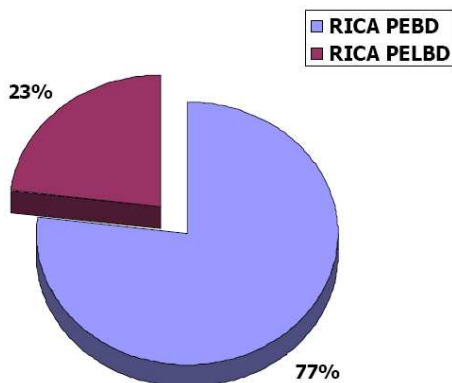
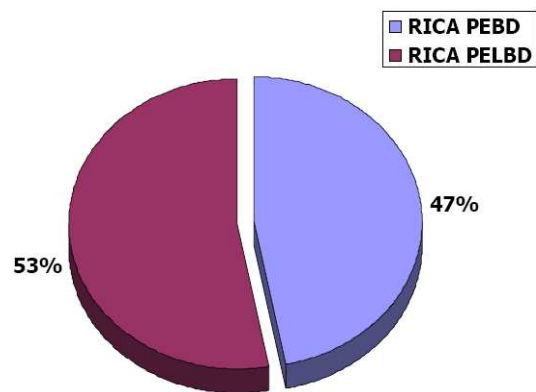

Figure 1. PEBD/PELBD mixtures Consumption in Western Europe (1998).
Figure 2. PEBD/PELBD mixtures Consumption in North America (1998).
The mixtures can be classified into two categories or domains: mixtures rich in PELBD and rich in PEBD. Depending on the offer levels of each resin, the machinery parks and consumption habits of each regional market, the mixture composition can shift towards each one of the domains. As an example, the European market mainly uses mixtures rich in PEBD (Figure 1) while in North America (Figure 2) dominates the use of mainly PELBD (1).